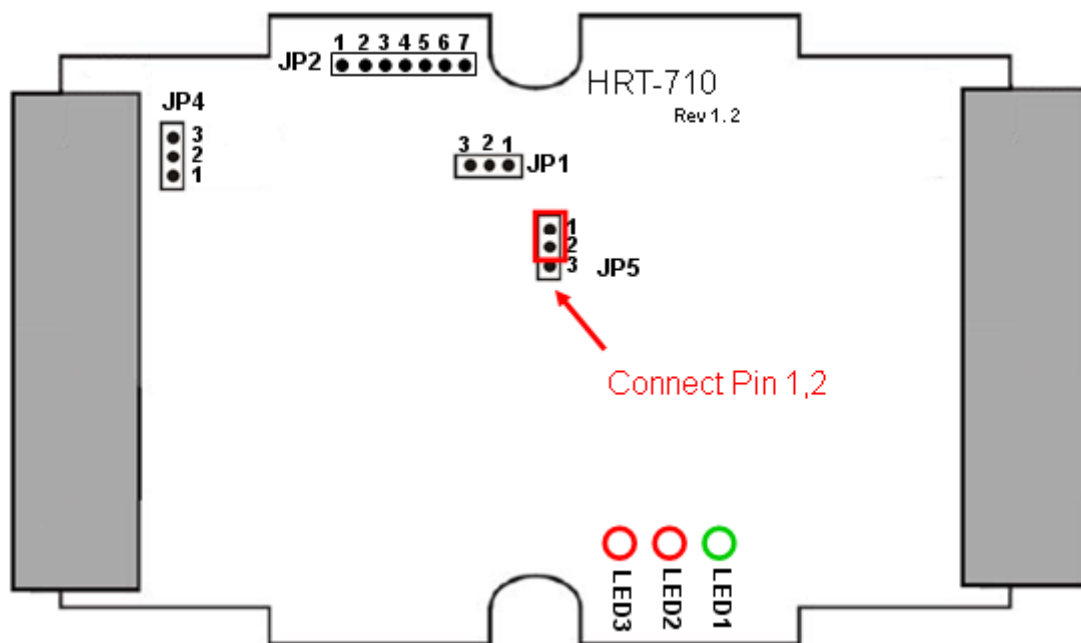

Figure 4-4 Connect pin 1 & 2 of JP5 together
- (5) Turn off the power and connect the pin 1 & 2 of JP5 together like Figure 4-4.